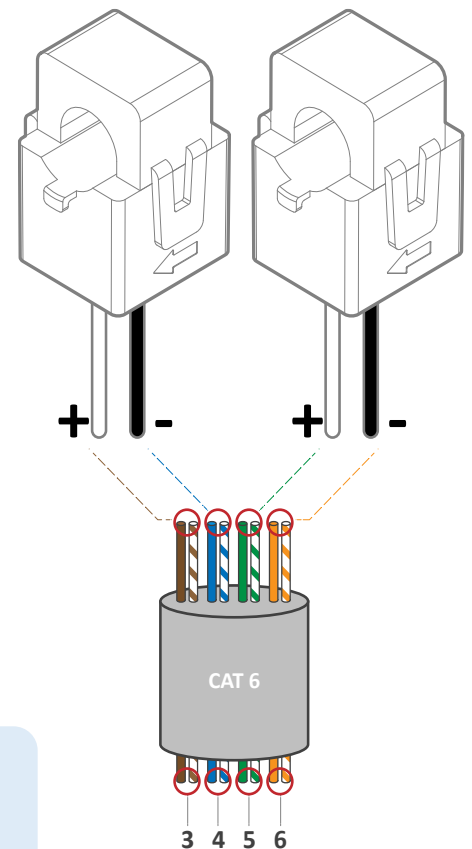

Figure 17: CT wire extensions with shielded CAT 6 cable
- If the wires need to be extended, use CAT 6 (shielded) cable to make an extension (see Figure 17).